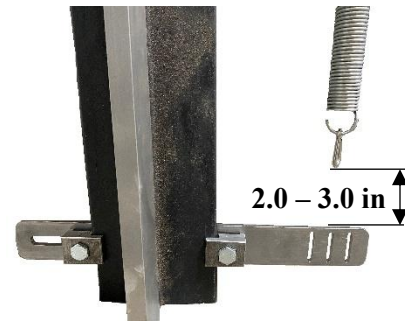

Figure 4: Distance from Bottom Carabiner of Tension Spring to Top of the Bottom Rail Fastening Plate
- a. Choose a hole such that the distance between the bottom of the spring's bottom carabiner and the top of the Rail Fastening Plate is between 2.0 – 3.0 inches when the spring is hanging and unstretched. See Figure 4